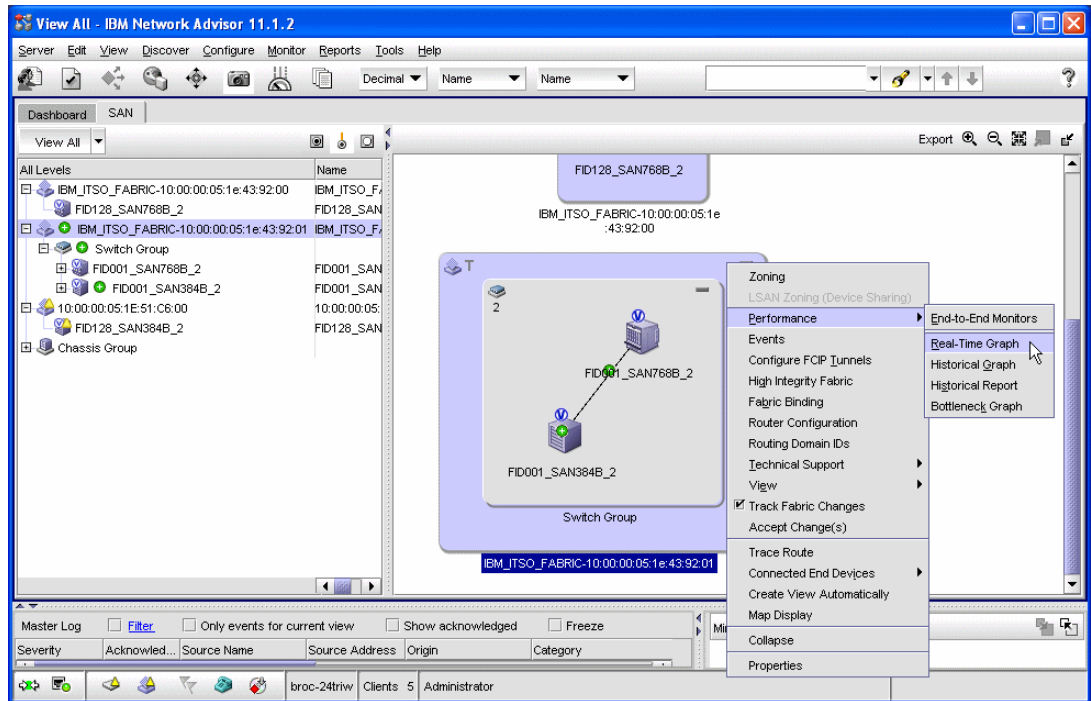

Figure 9-5 Real-Time Monitor set up
1. Select a fabric or director on the IBM Network Advisor Product List or Topology Map view, and then select **Monitor** → **Performance** → **Real-Time Graph** from the menu bar. Or right-click a fabric or director, and select **Performance** → **Real-Time Graph** (Figure 9-5 on page 333).